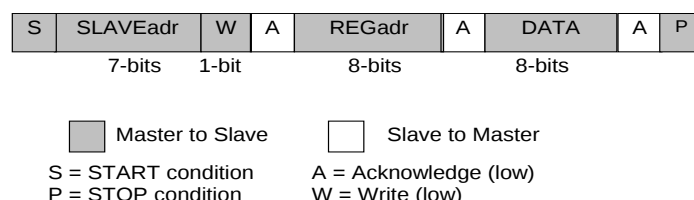
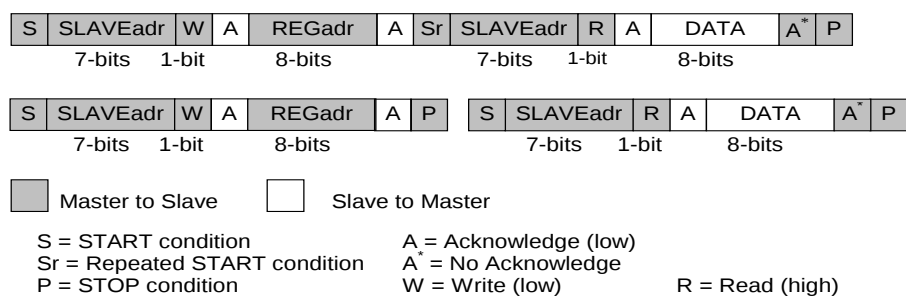

Figure 12. I²C Byte Write (SDA Line)
Figure 13. I²C Byte Read (SDA Line) Examples
The I²C bus is monitored for a valid slave address whenever the interface is enabled. It responds immediately when it receives its own slave address. The acknowledge is done by pulling the SDA line low during the following clock cycle (white blocks marked with A in Figure 12 and Figure 13).
The protocol for a register write from master to slave consists of a START condition, a slave address with read/write bit, and the eight-bit register address followed by eight bits of data, terminated by a STOP condition. DA9130-A responds to all bytes with acknowledge (A), see Figure 12.
When the host reads data from a register it first has to write to DA9130-A with the target register address and then read from DA9130-A with a repeated START, or alternatively a second START, condition. After receiving the data, the host sends no acknowledge (A*) and terminates the transmission with a STOP condition, see Figure 13.